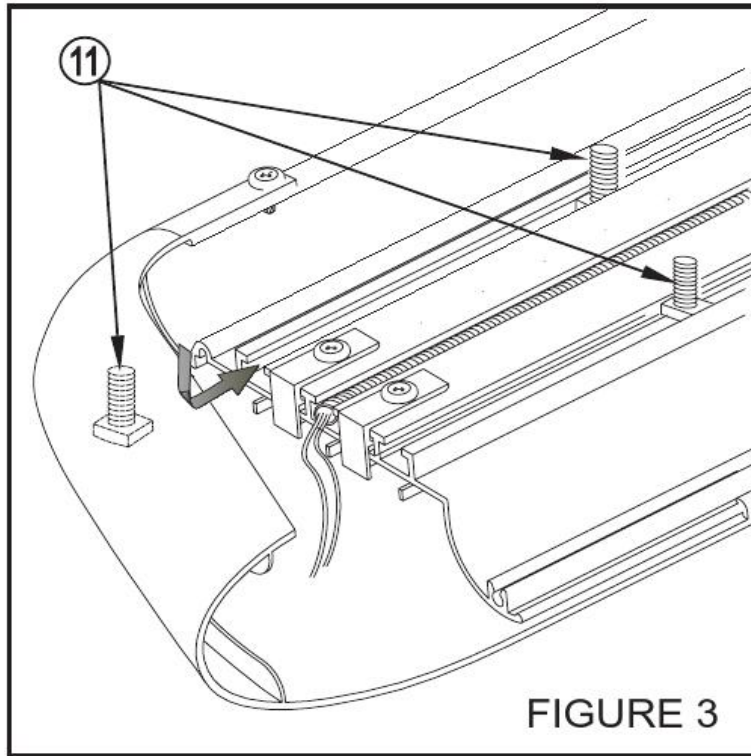

FIGURE 3
4. Insert square head bolts as shown (3 per slot,6 per Step board/Running board).**SEE FIGURES 3 AND 4.****NOTE:**For lighted boards,run wiring harness prior to attaching board to brackets (refer to Step6) **SEE FIGURES 7.**Run longer wire harness on passenger side.